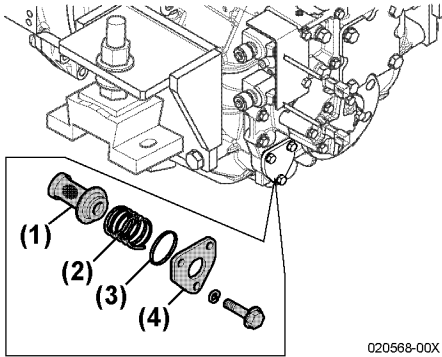

Figure 3
- a. Remove side cover (**Figure 3, (4)**) and remove the filter (**Figure 3, (1)**).
- c. Hold the filter in place with the coil spring (**Figure 3, (2)**) and insert into the case. Install a new O-ring (**Figure 3, (3)**) in the side cover.